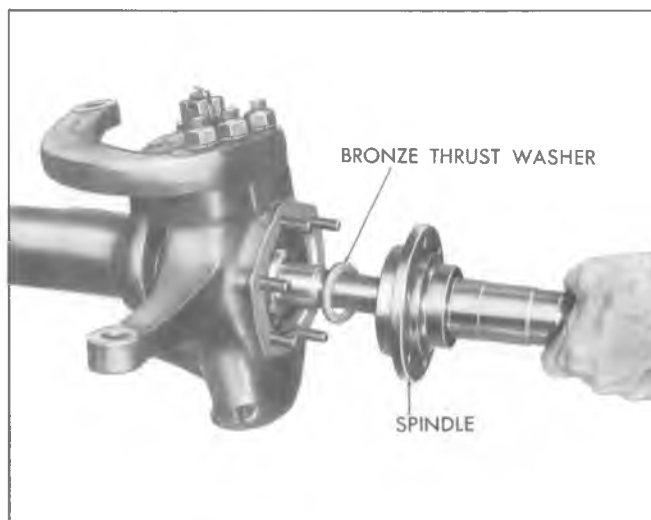

Fig. 34—Installing Spindle and Thrust Washer
10. Install the bronze thrust washer over the axle shaft and install the spindle as shown in Figure 34.